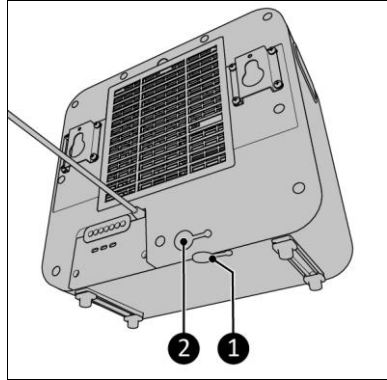

Figure 17
1. Make sure both water stop plugs are in the indoor unit reservoir (Figure 17, pos. 1 and 2).